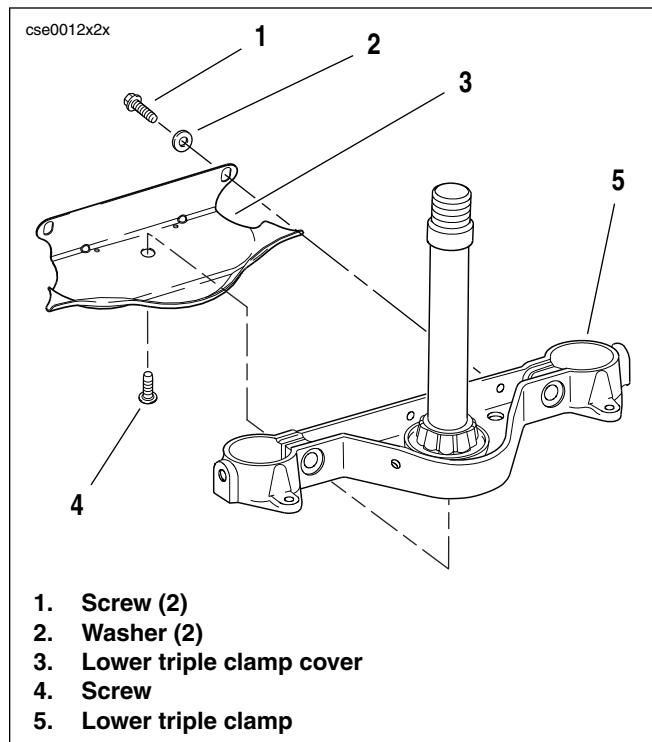

Figure 2-8. Lower Triple Clamp Cover
1. See Figure 2-8. Loosen but do not remove the two screws (1) on the backside of the lower triple clamp cover (3).
2. Remove screw (4) through brake line manifold on bottom of triple clamp cover.
3. Remove two screws loosened in step 1, with washers (2) and remove cover.
4. To replace cover, fit cover inside bottom of nacelle and around lower triple clamp (5). Hold in place.
5. Install screws (1) and washers (2). Tighten finger-tight only. Install screw (4) through brake line manifold and cover. Tighten finger-tight only. Verify that cover is snug against rear surface of lower triple clamp.